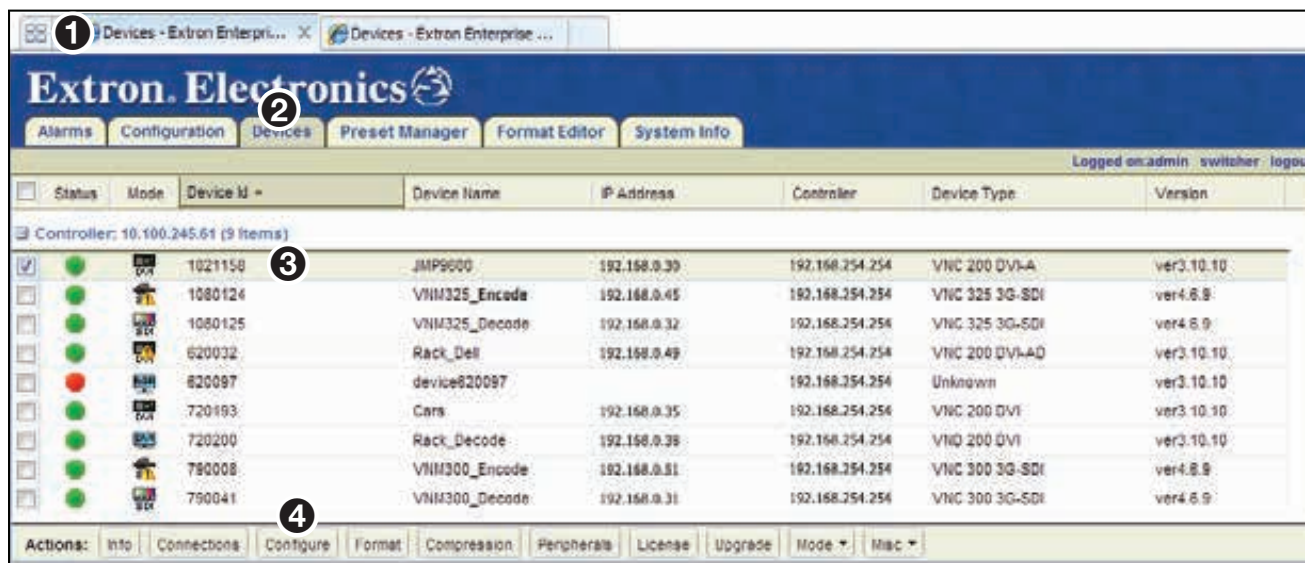

Figure 125. Devices Page
On the left tab (see figure 125, ❶) the **Devices** page opens (❷).
7. Choose the encoder connected to the VN-Matrix network in step 3 (❸).